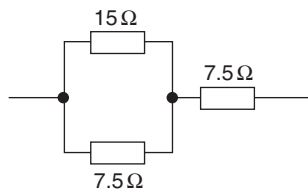

Fig. 26
28. The combined resistance of the circuit in Figure 26 is